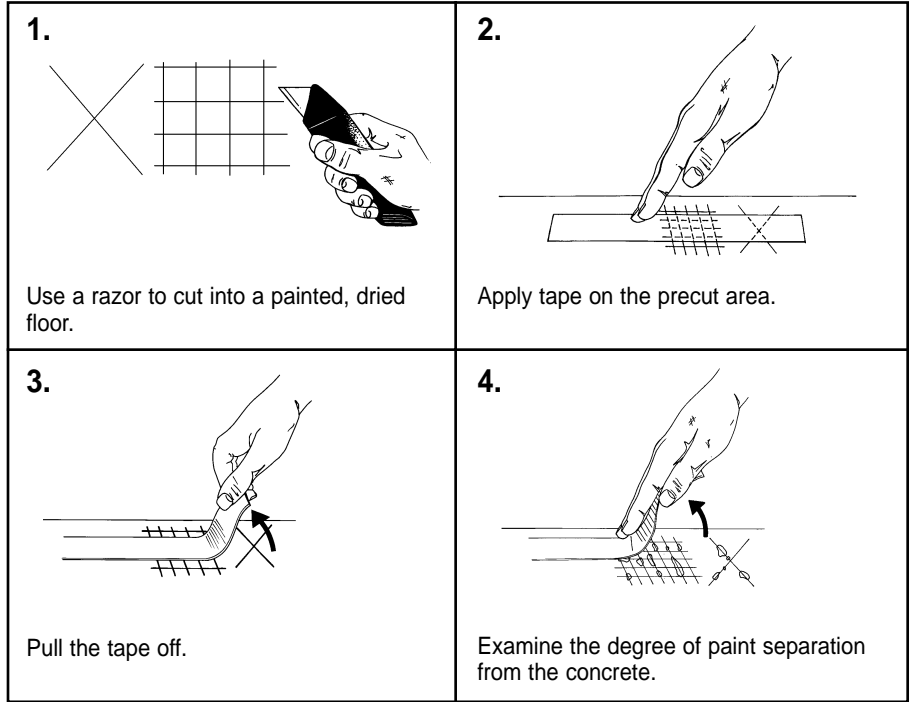

Figure 5. Adhesion test on the painted floor.
2. Combine separate cans of paint into one container to ensure uniform color distribution. It is recommended that a test area be coated to ensure that the adhesion and electrical performance of the paint is acceptable. (See Adhesion Testing, Figure 5.) If the test areas show inadequate adhesion, use an industrial floor primer/sealer.